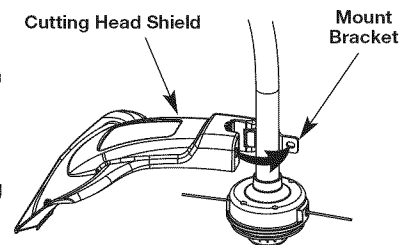

Fig. 1
1. Place the cutting head shield onto the shaft housing. Be sure the guard mounting bracket slides into the slot on the edge of the cutting shield. Rotate the shield into place, counterclockwise (Fig. 1). The holes in the guard mounting bracket and cutting head shield will line up.